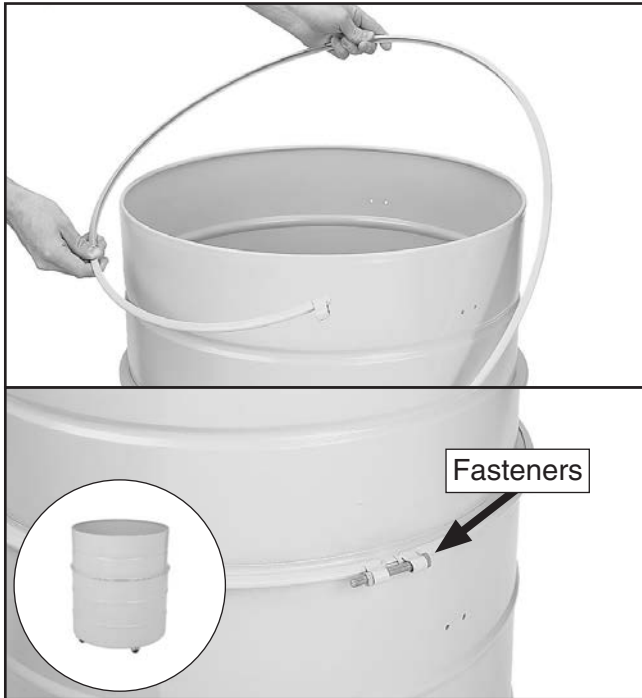

Figure 25. Installing metal clamp around collection drum.
- 15. Model G0441:** Connect the upper and lower collection drums together and secure them with the included metal clamp and provided fasteners, as shown in **Figure 25**.